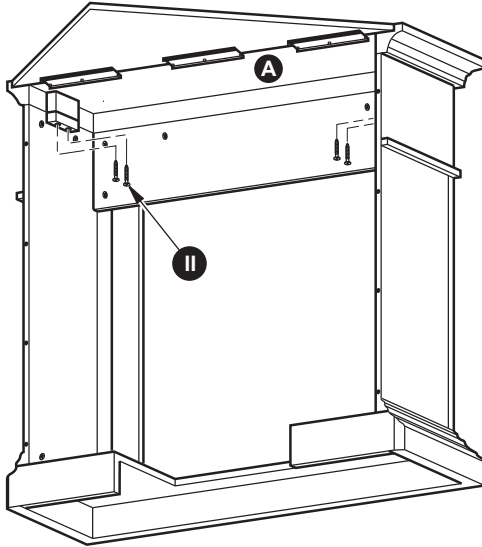

Figure 37
10. Fasten the wooden support brackets attached to the top of the mantel assembly to the Top (A) with 4) ST4 Screw 1 $\frac{9}{16}$ " (II) as shown in Figure 37.